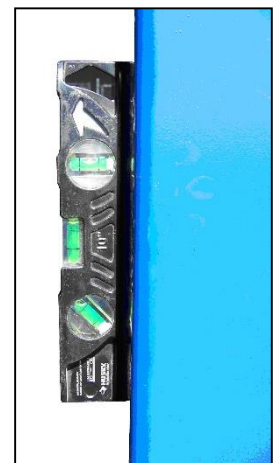

Fig. 5
6. Using a level, check column plumb for every side (Fig. 5). If shimming is required, use supplied Shim stock or $\frac{3}{4}$ +washers, placing shims as close as possible to the hole locations. This will prevent bending column bases.